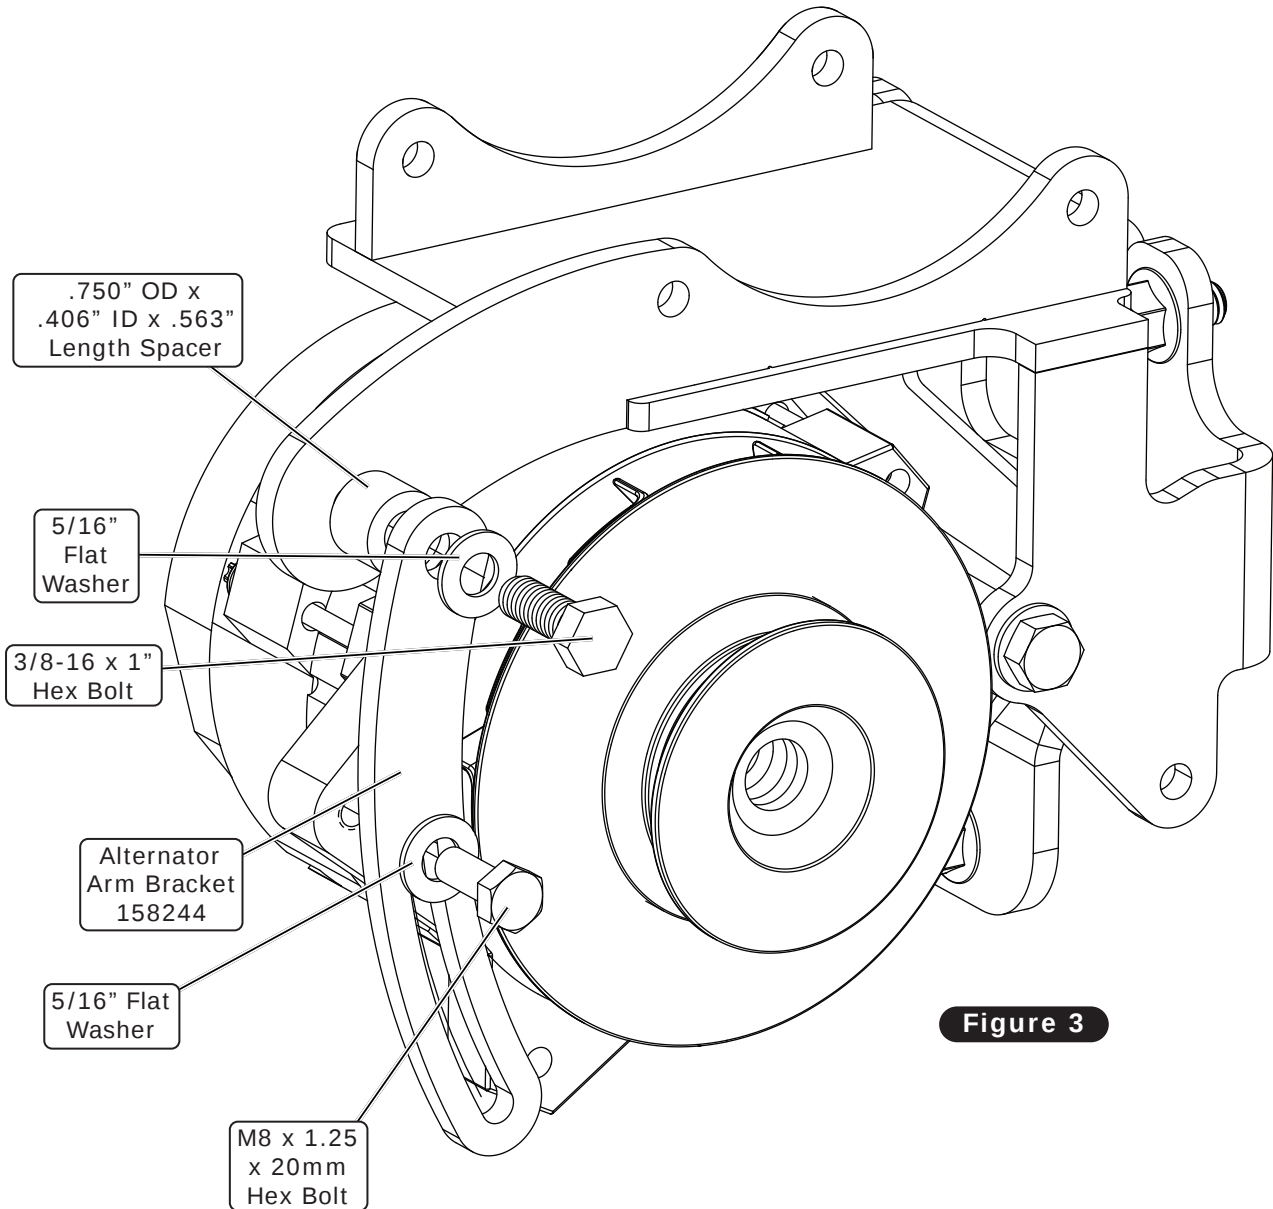

Figure 3
3. Install the alternator arm bracket onto the assembly using a 3/8-16 x 1" hex bolt. Install a 5/16" flat washer and a .750" OD x .406" ID x .563" length spacer onto the threaded boss of the assembly (See Figure 3, below). Leave loose.
4. Install an M8 x 1.25 x 20mm hex bolt and a 5/16" flat washer into the alternator through the alternator arm bracket (See Figure 3, below). Leave loose.